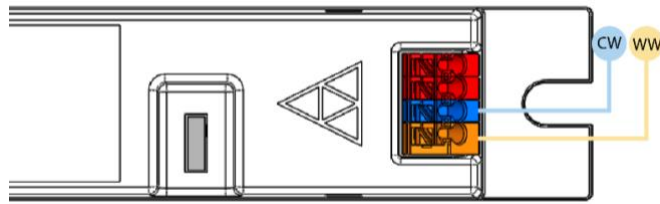

Figure 3 - Wiring APT-CV2-VA-CVO Warm White/Cool White LED module
2. Changing the DMX Address Assignment does not change the physical wiring of the controller to the LED module. Please refer to Figure 3 for warm white/cool white wiring application.